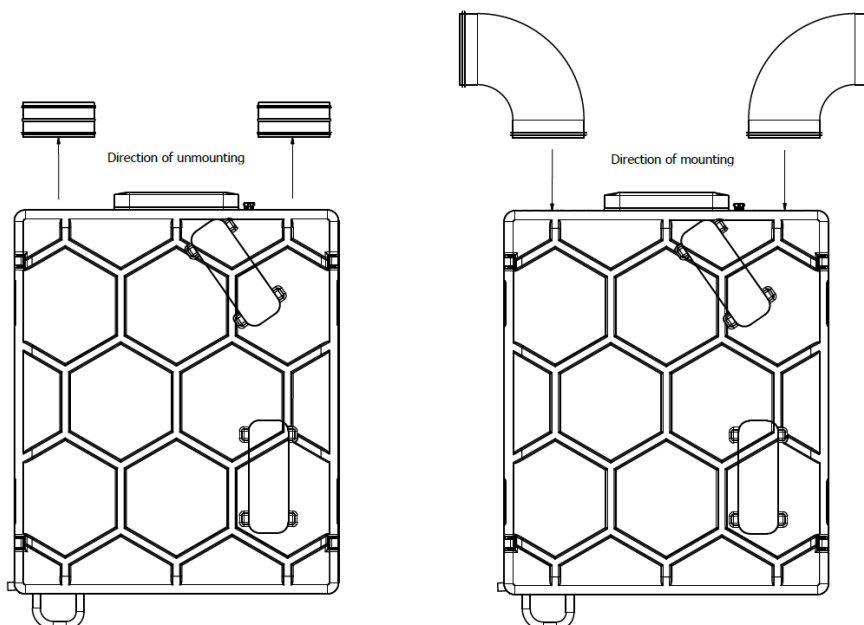

Figure 21 – fitting's change
2. If you want use different duct connectors it is possible to unmount NSL male connectors and easily install replacement fittings (for example elbow, offset bend, etc.). NSL connector are snap-on mounted, to unmount them you need to pull them up using a some force (see figure 21).